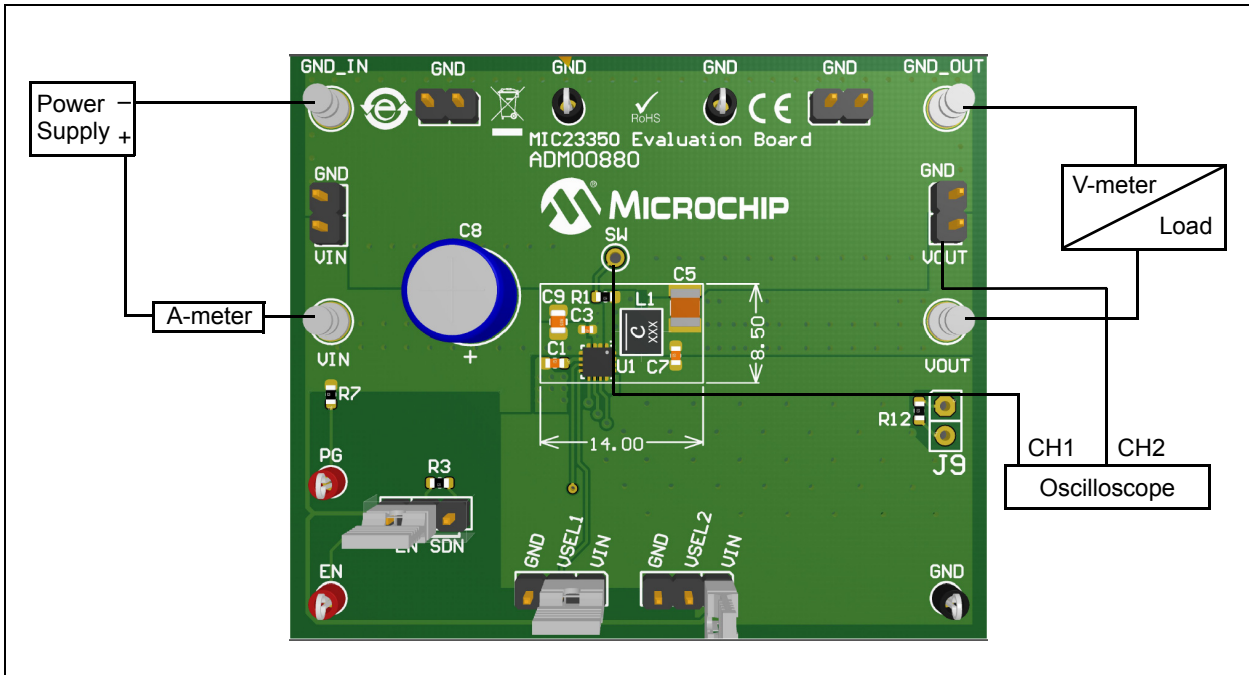

FIGURE 2-2: MIC23350 Evaluation Board Setup.
1. Connect the input supply, voltmeter, amperemeter and load as shown in Figure 2-2.
3. Fit the enable jumper on the J6 header according to the silkscreen indication (see Figure 2-2).
When testing the MIC23350 device at high load currents, or when checking the over-current protection behavior, it may be necessary to remove the series A-meter, shown in Figure 2-2, or to replace it with a very low-value shunt resistor. This is because the internal resistance of many Digital Multimeters (DMMs) used for current measurements is generally too high.